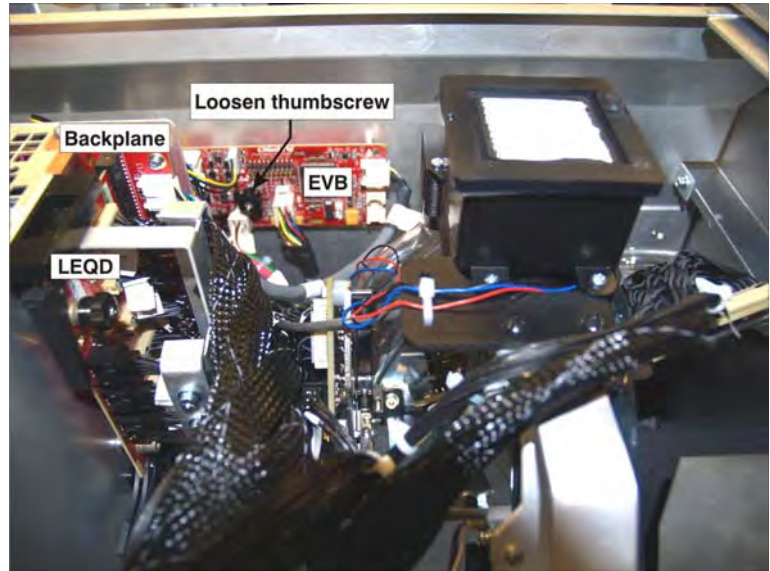

Figure 5-39 Remove EVB
3. Loosen the single thumbscrew securing the EVB in place. (**Figure 5-39**)